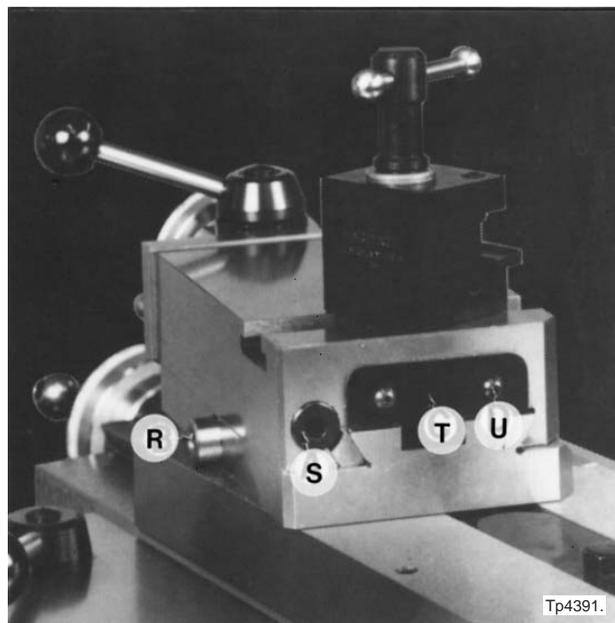

Figure 2.8 - Tool Post Assembly
2. Loosen and remove eccentric lock "R", Figure 2.8 .
6. Replace and tighten eccentric lock "R" Figure 2.8 .